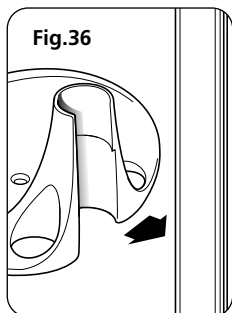
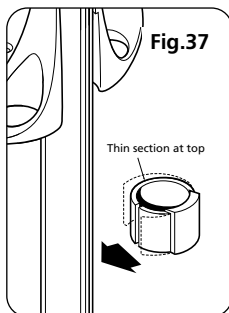
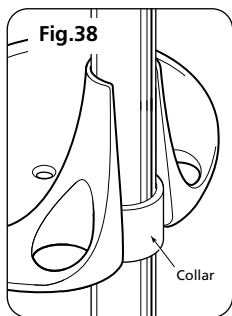

Fig.36
Fig.37
Fig.38
**F** Snap the soap dish onto the rail (**fig.36**) below the holder assembly. Prise open the soap dish collar and fit onto the rail (**fig.37**) below the dish. Note the collar is slightly tapered and should be fitted 'thinner section' uppermost. Ensure it locates firmly in the soap dish (**fig.38**) so that it holds the dish at the required height on the rail.